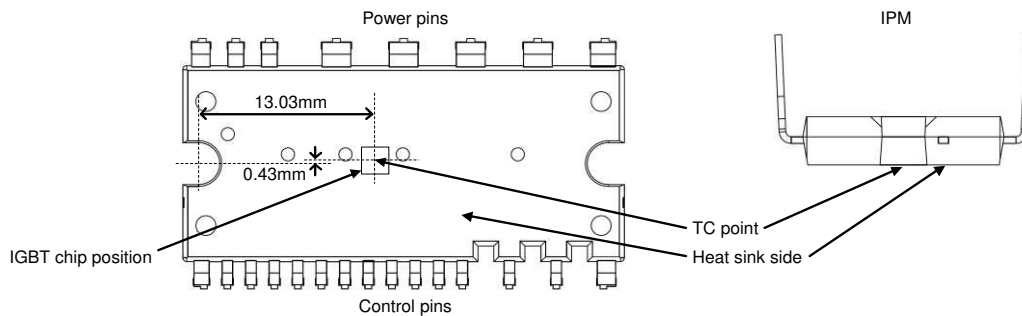

Figure 1. T_C Measurement Point.
2. For the measurement point of case temperature (T_C), please refer to Figure 1.